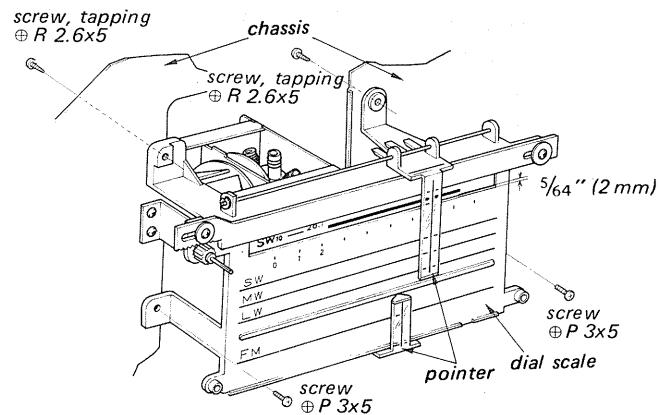

Fig. 2-15
2. Remove the four screws shown in Fig. 2-15.
4. Turn the dial drum so that the drum indicates SW10 and the distance between the dial scale and the line on the drum becomes  $5/64$  inches (2mm) as shown in Fig. 2-15.